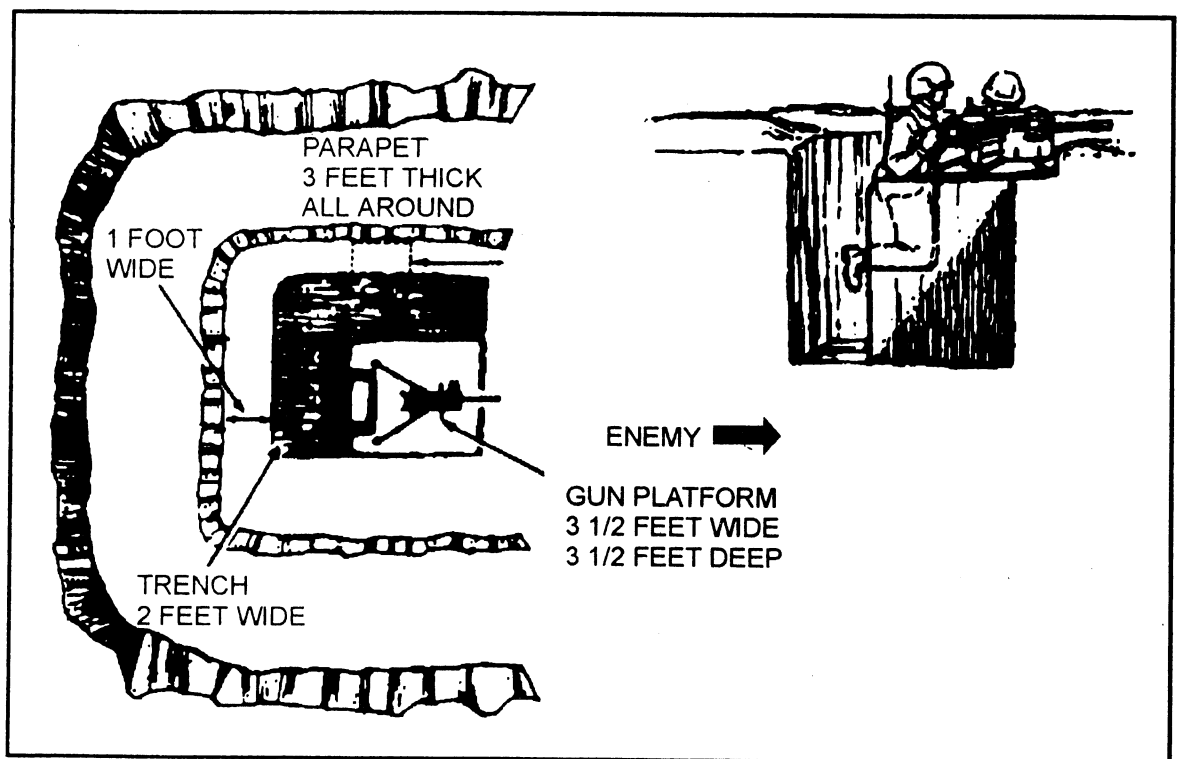

Fig 5-2. L-shaped position.
b. L-shaped position. Construct the L-shaped machinegun fighting position only when one sector of fire is assigned. Basically, think of the L-shaped position as half of the T-shaped position. The L-shaped fighting position allows easy 180 degree traverse across the front. Its disadvantage is that it provides less protection against indirect fire. You can only engage the enemy to your front and flanks while you remain covered in the fighting hole (see fig 5-2).